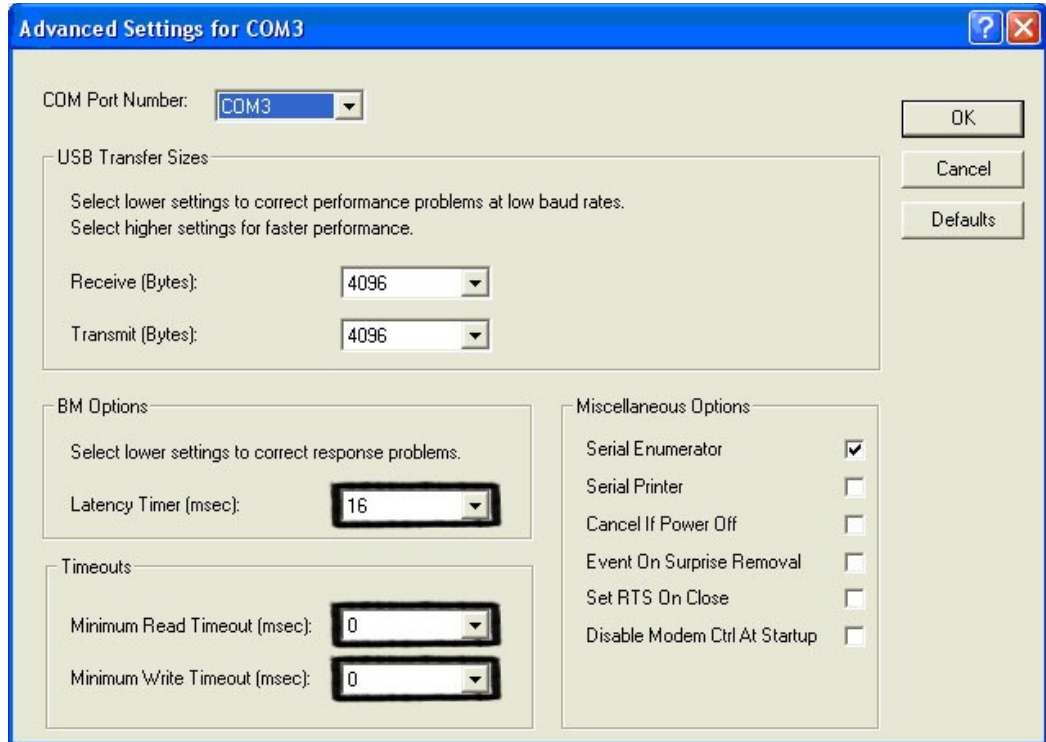

Fig. A.11
- as it is shown in Fig. A.11, and click «OK».**
but parameters shown in Fig. A.11 provide less load on CPU of computer.